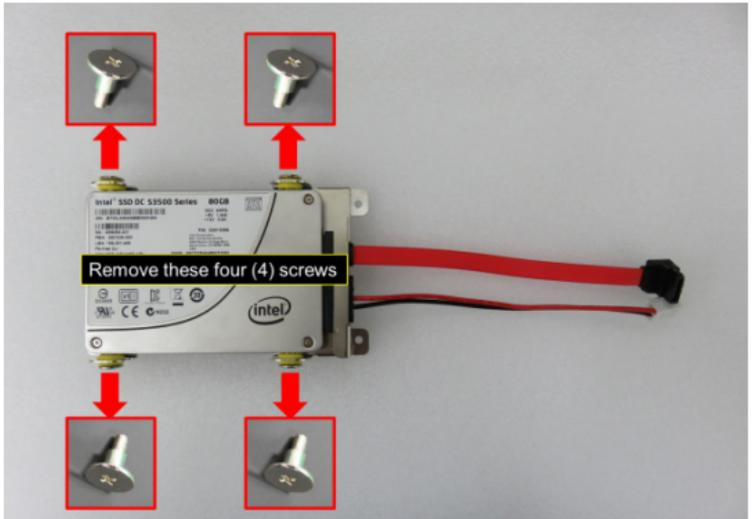

Figure 22
- 4.2.2.5 Use a Phillips screwdriver (item 1 in Table 2) to remove the four (4) screws on the HDD tray as shown in Figure 22.